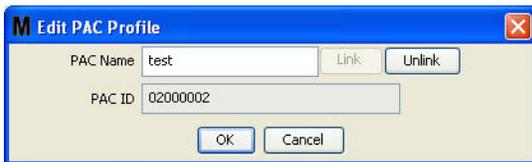

FIG. 133
- The Edit PAC Profile box shown in FIG. 133 displays. To change the PAC name, type a new name in the PAC Name box and click OK to close the screen and save the changes.